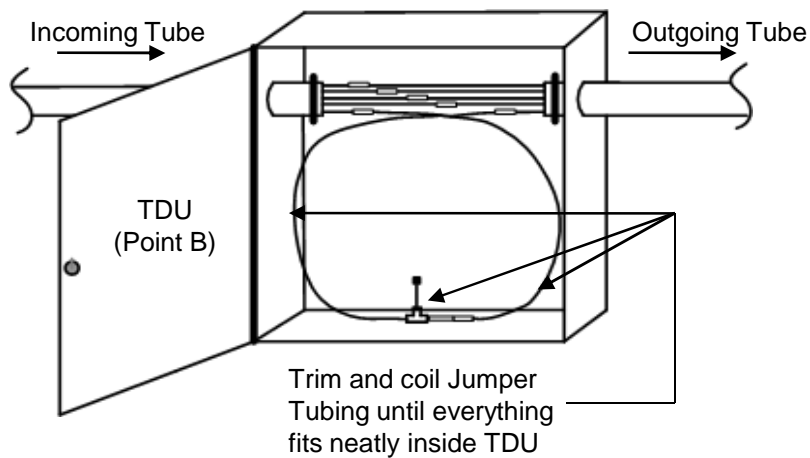

Figure 5
6.5.4 **Key Step.** Test fit and verify all jumper tubing used can be coiled and stored neatly inside TDU interior. This step must be done before blowing operations begin. **See Fig. 5.**